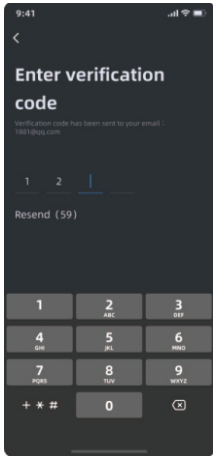

Figure 7
7) Figure 7: Enter the received verification code. If it is correct, the modification is successful. You can log in with a new email/phone number next time.